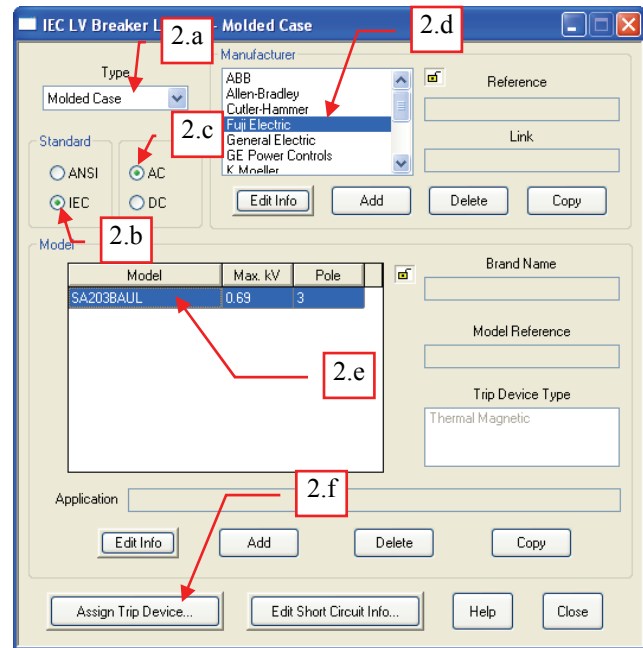

Fig. 25
2. In the “[X] LV Breaker Library – [Y]” dialog box, do the following (see Fig. 25):